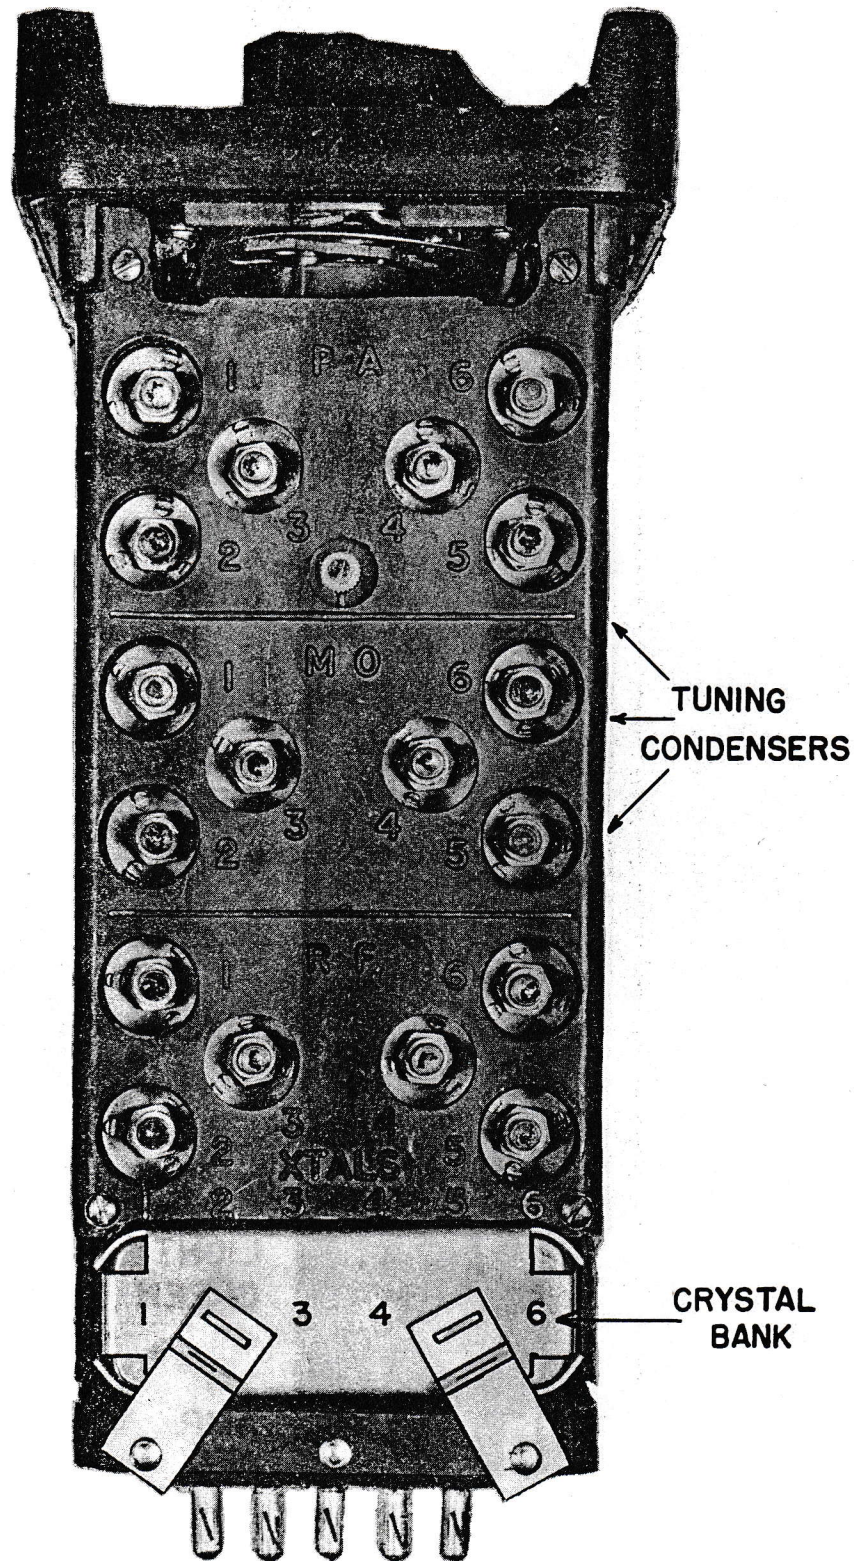

Fig 2 - Radio Set CPRC 26 Showing Crystal Bank & Trimming Condensers
- (v) Tune RF condenser (Channel 1) for maximum reading on the meter. (See Fig 2 for location and markings of condensers).